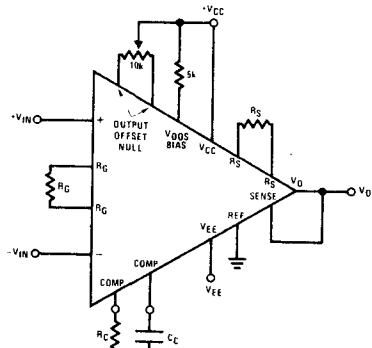
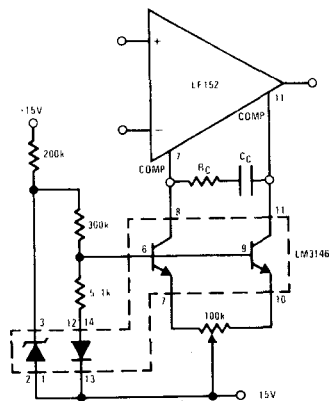
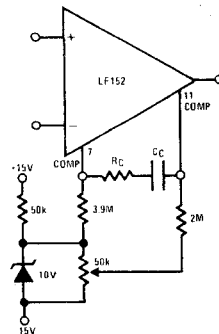

FIGURE 2
FIGURE 4. Input Offset Adjust
FIGURE 5. Simple Input Offset Adjust
**Note 2:** These specifications apply for  $V_S = \pm 15\text{V}$  and over the absolute maximum operating temperature range ( $T_L \leq T_A \leq T_H$ ) unless otherwise noted. Parameters are specified for  $R_C = 160\Omega$ ,  $C_C = 0.002\mu\text{F}$ , and a proper layout such as the PC board in Figure 7, which is laid out for Figure 2 and Figure 4.
The output offset of the LF152 can be adjusted as shown in *Figure 2*. In addition, the LF152 features input offset adjust which is not common to monolithic instrumentation amplifiers and is normally available only on expensive modules. The simple adjust scheme shown in *Figure 5* has only a slight increase in non-linearity compared to that of *Figure 4* and is recommended for most applications. Nulling both input and output offset makes the overall offset zero, independent of gain.
The effective input offset voltage appears directly across  $R_G$  when both inputs are connected to ground, and can be measured by a voltmeter referenced to ground. This offset error across  $R_G$  can be zeroed by the input offset adjustment circuit shown in *Figure 4* or *5*. The remaining error at the output is strictly due to the output offset voltage which can then be nulled out with the circuit shown in *Figure 2*. The amplifier is now offset nulled independent of gain.